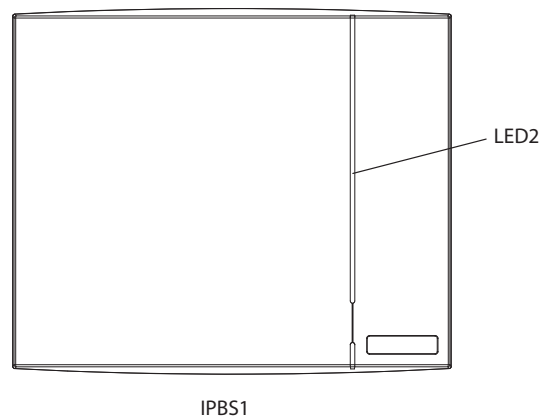
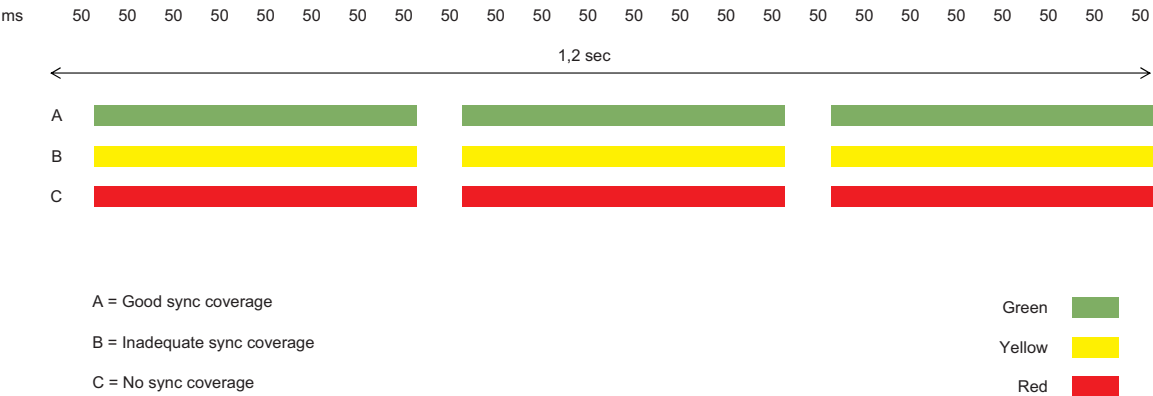

Figure 7. LED2 on the IPBS1.
Figure 8. LED2 deployment indications on IPBS1.
**For IPBS1:** You can also check the synchronization by looking at LED2 (upper LED) on the base station IPBS1, see Figure 7 on page 22. For a description of LED2 deployment indications, see the diagram in Figure 8 on page 22. When indicating no sync (LED flashing red) it might take some additional time (10 to 30 seconds) to regain synchronization when entering the sync coverage again.